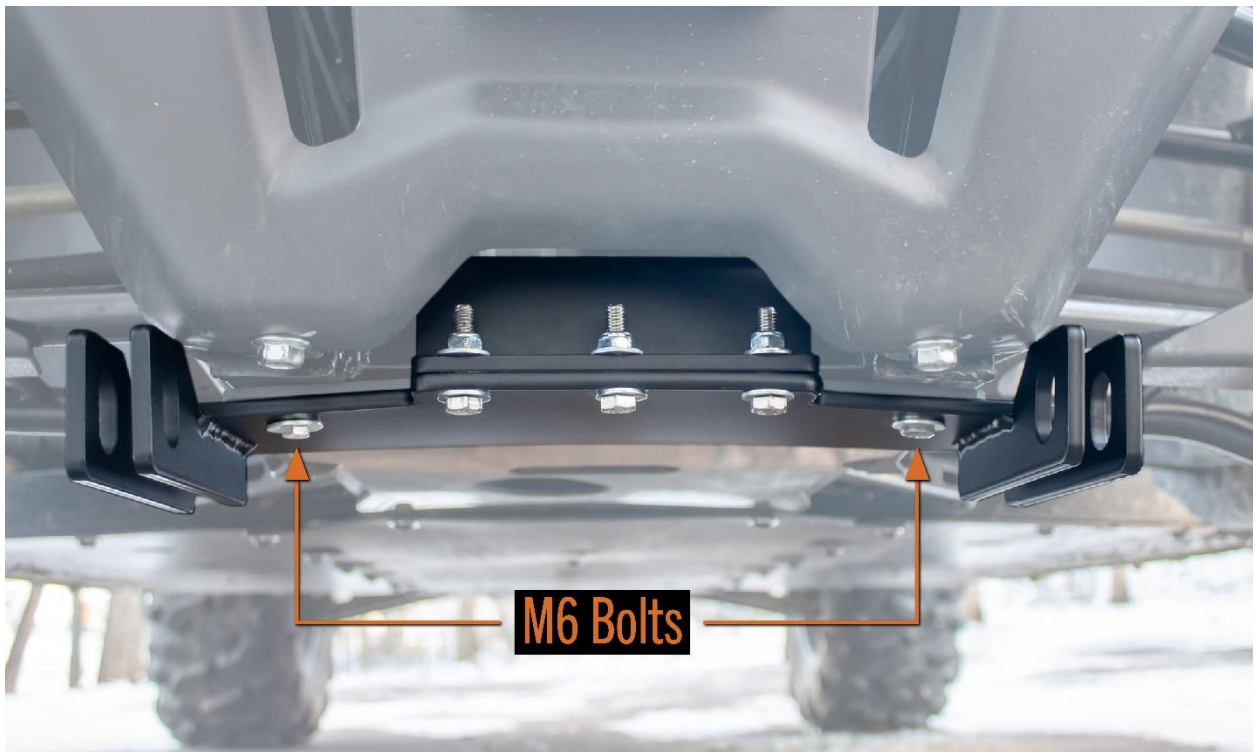

Figure 2
1. Remove two M6 bolts located at the front of the skid plate, as shown in **Figure 2**